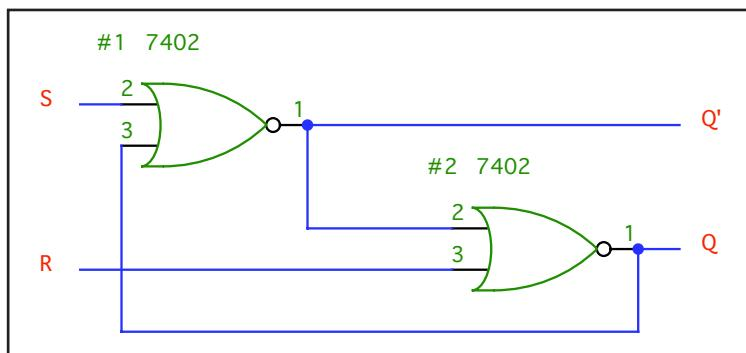

Figure 3.35 SR Latch
A set-reset (SR) latch allows us to “set” a bit to 1 or “reset” it to 0. We can do this using ordinary logic gates. The trick is to loop the output back into the input (Figure 3.35).